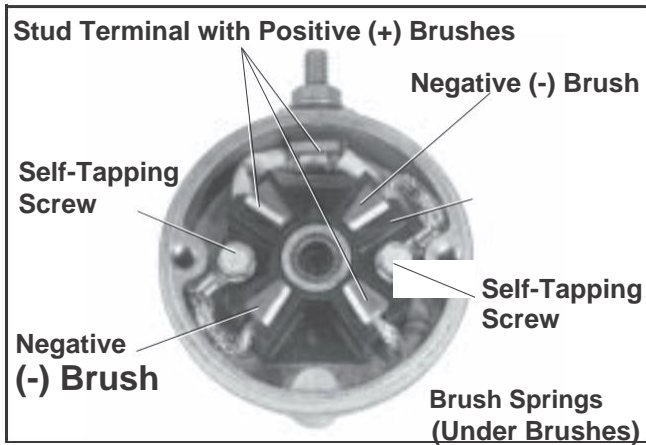

Figure 8-15. Style "A" Commutator End Cap with Brushes.
1. Remove the brush springs from the pockets in brush holder. See Figure 8-15.